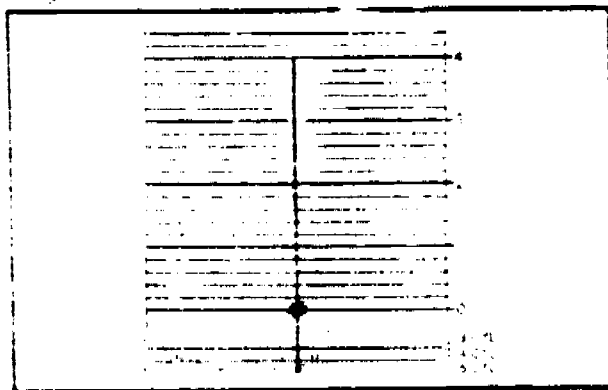

Figure 4-4. Coil Output - Cranking
b. Crank the engine, and note the coil output. See figure 4-4.